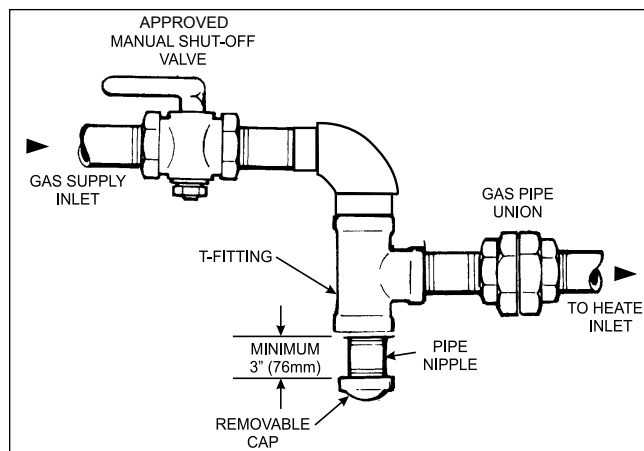

Figure 6. Proper Design for a Sediment Trap/Drip Leg
- Install a sediment trap (drip leg) ahead of the gas controls, see Figure 6. Fit the trap with a threaded cap which can be removed for cleaning.